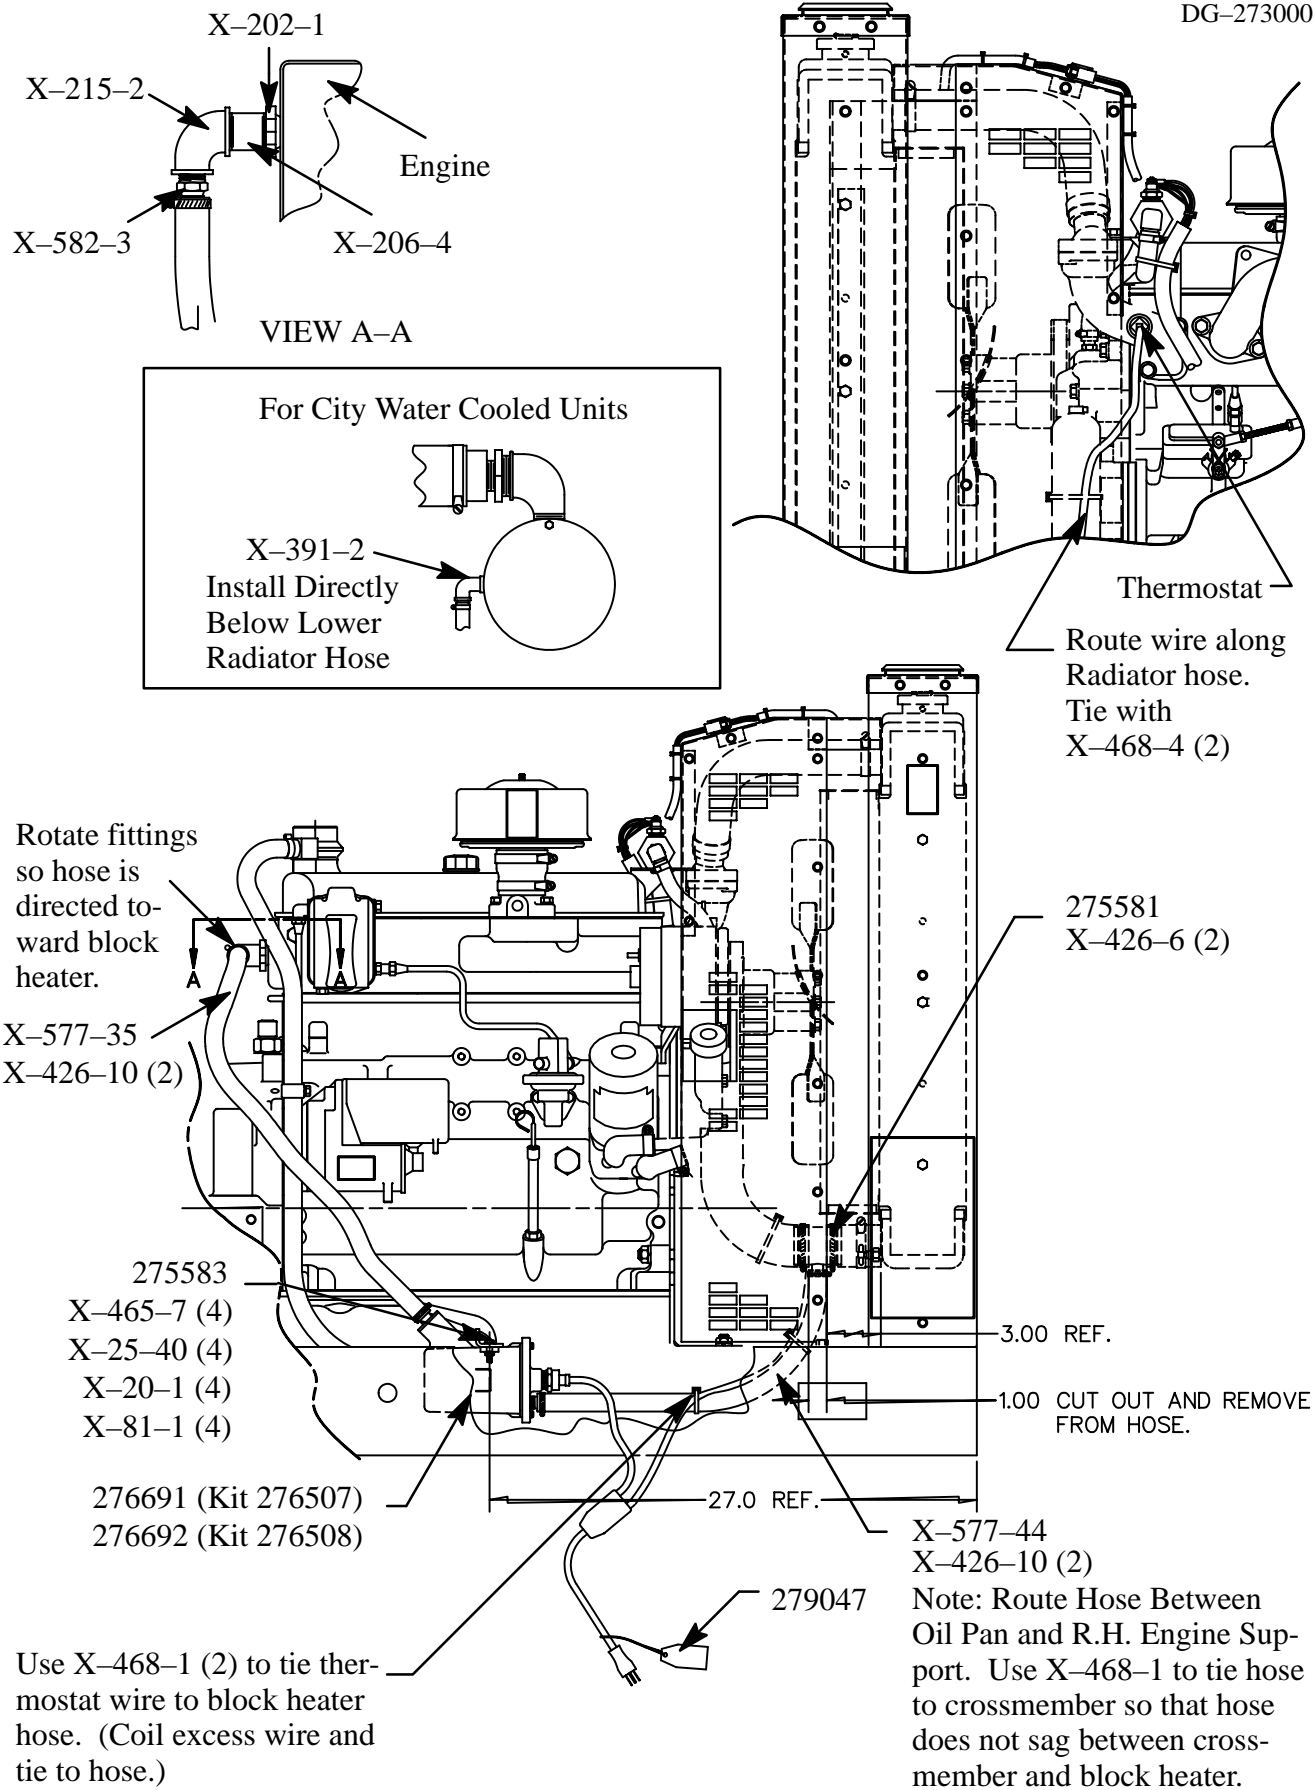

Figure 2. Block Heater Installation (Tank-Type)
5. Remove block heater from engine block and discard. These items will not be reused. Install 3/4 inch reducer bushing (X-202-1), pipe nipple (X-206-4), elbow (X-215-2), and hose connector (X-582-3). See Figure 2, view A-A.
12. Install hose connector (X-391-2) directly below lower radiator hose as shown in Figure 2. Locate hose clamp (X-426-10) 1/4 in (6 mm) from end of hose (X-577-44) and tighten to hose connector. (Items 275581 – Hose Connector and X-426-6 – Hose Clamps will not be used in this instance).
14. Position thermostat on other side of block at location shown in Figure 2 by removing existing plug in block. (NOTE: If by-pass hose is located in this position, use service kit #276577 to upfit.)
All parts included in this kit may not be used. However, if component parts of existing block heater kit show wear or are damaged in some way replace with new parts supplied in kit (refer to Figure 2 for proper positions).
3. Remove pipe nipple (X-206-2) and replace with pipe nipple (X-206-4). See Figures 2 and 3 (Views A-A).
8. Locate hose clamp (X-426-10) 1/4 in (6 mm) from end of hose (X-577-44) and tighten to nipple on existing hose connector (275581) see Figure 2.
10. Position thermostat on opposite side of block in location shown in Figure 2 by removing existing plug in block.